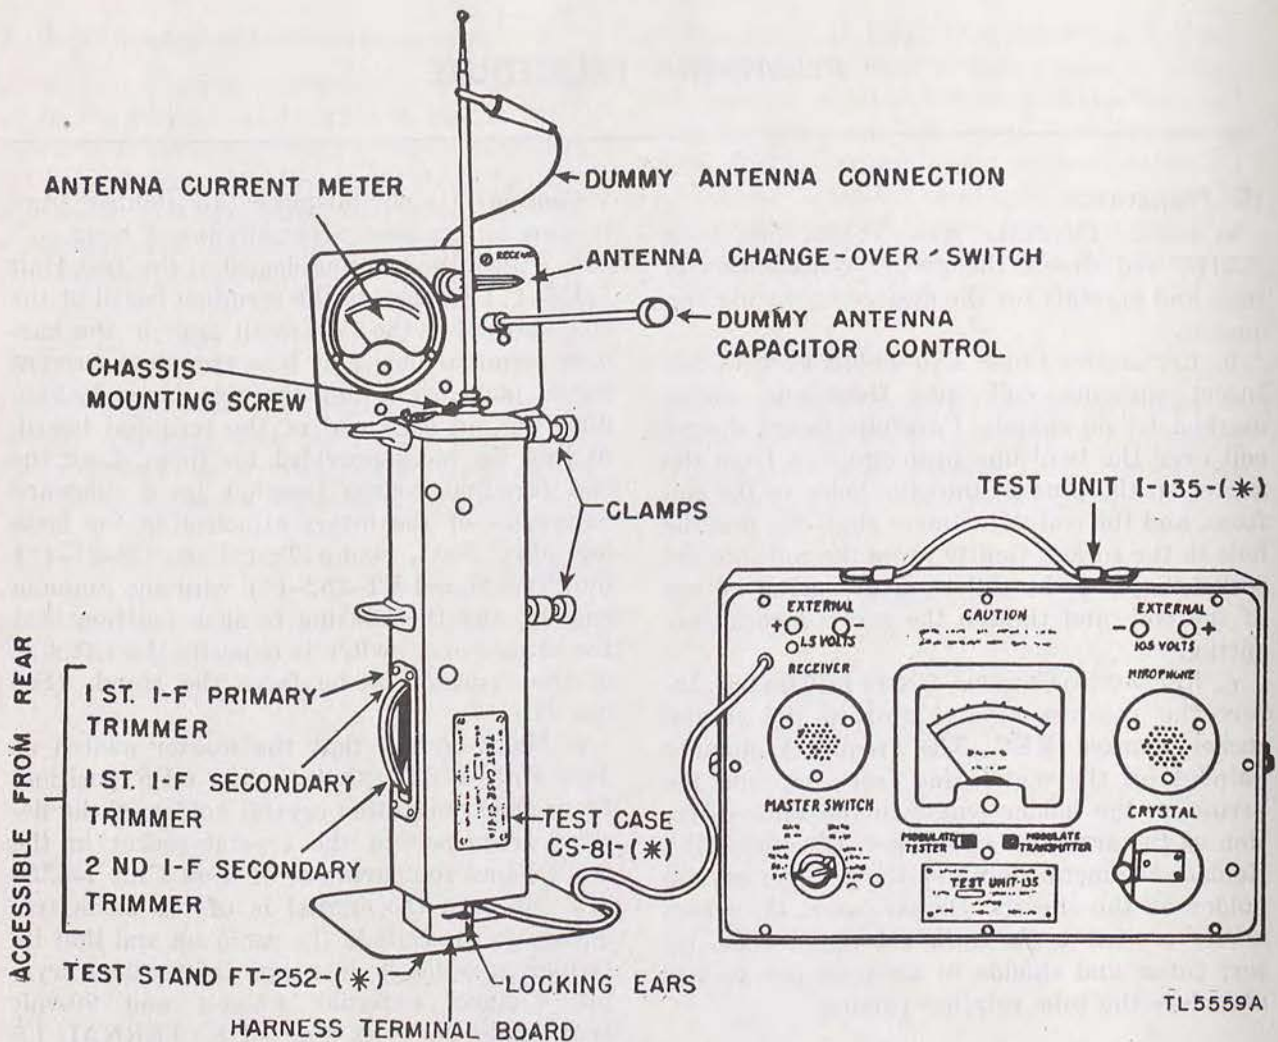

Figure 32. Test Equipment IE-17-(*)—Set-up.
b. Attach the terminal board of the Test Unit I-135-(*) harness to the terminal board of the chassis so that the two small pins on the harness terminal board fit into the plate current meter jacks, and that the two large locking pins, one on each end of the terminal board, fit into the holes provided for them. Lock the two terminal boards together by a sideward movement of the levers attached to the locking pins. Next, clamp Test Case CS-81-(*) into Test Stand FT-252-(*) with the antenna end up, and the housing in such position that the change-over switch is opposite the left side of the operator as he faces the stand. (See fig. 32.)
d. Grasp the test case with one hand during the following alignment adjustments on the receiver. The location of the receiver tuning adjustments on the radio chassis are shown in figures 32 and 36. With the insulated screw driver, turn the receiver antenna adjustment screw clockwise. Notice the effect of this adjustment on the output meter reading. If the meter reading *increases*, continue to tighten the screw until a maximum reading is obtained. If the reading *decreases*, turn the screw counterclockwise until a maximum reading is obtained. Be careful not to tighten the screw after it begins to turn hard as the threaded base of the trimmer will be stripped. The setting of the trimmer screw for maximum output should fall somewhere between the point of hard tuning and that of minimum pressure. If the maximum is not reached in these limits of the screw adjustment, try another antenna coil. If the set appears to be badly out of alignment, proceed as outlined in paragraph 22.
a. Turn the MASTER SWITCH on test unit to PWR. AMP. position. Adjust the transmitter tank adjustment screw for minimum current reading on the meter in the test unit. The normal reading in this position is approximately 7 milliamperes. See figures 32 and 37 for location of transmitter tank adjustment.
(3) With the MASTER SWITCH of the test unit on OUTPUT 60 V.A.C. (MODULATE TESTER switch ON), adjust the second i-f secondary trimmer for maximum output, next the first i-f secondary trimmer, and then the first i-f primary trimmer. (See fig. 32.) All i-f trimmers are adjusted for peak output meter reading. As the i-f trimmers are aligned, loosen the signal coupling to the receiver antenna so the maximum audio output reading of the meter is not over 10 volts. This is necessary to prevent overloading the receiver and consequent poor alignment of the i-f circuits. The above alignment adjustments must be performed very carefully for good results. Go over the alignment a second time.
(4) After the i-f alignment adjustments have been made, complete the procedure by adjusting the receiver antenna adjustment screw and the receiver tank adjustment as described in paragraphs 19d and 19e.